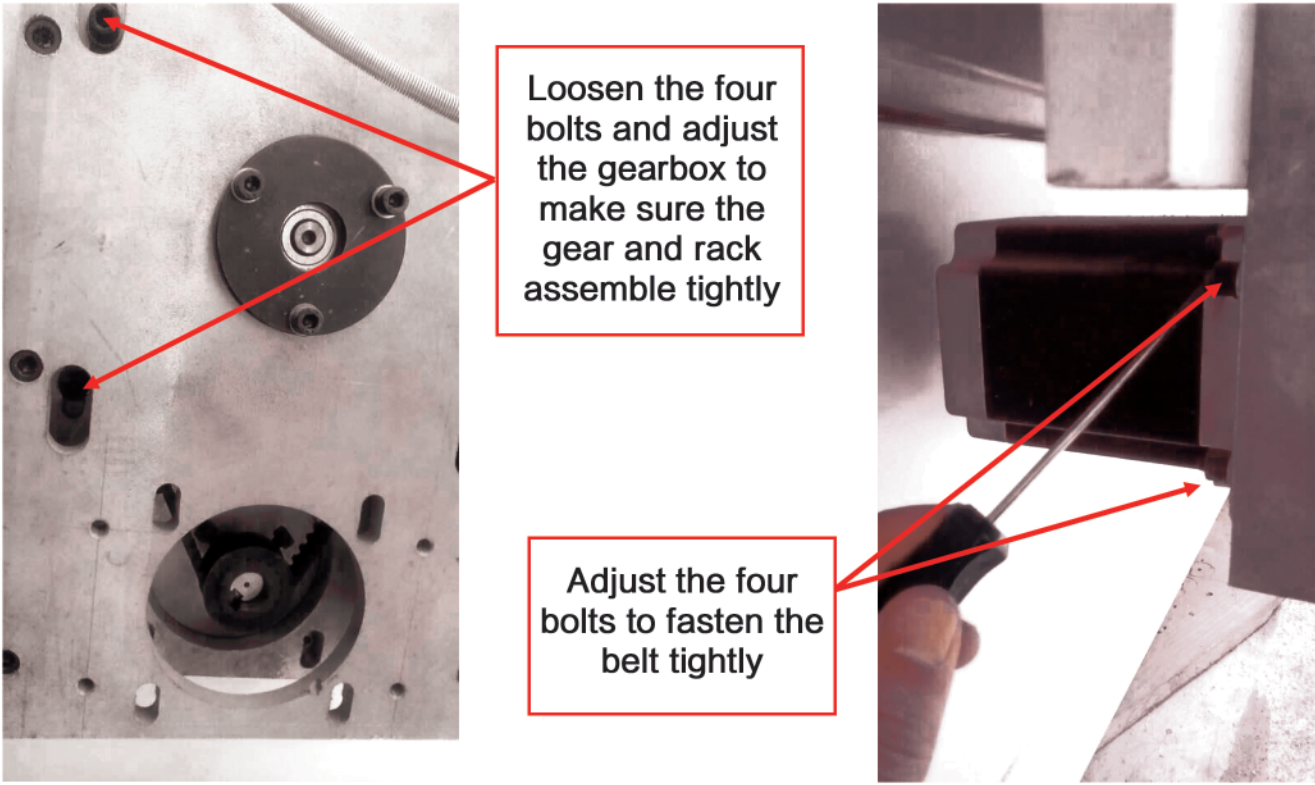

Fig.8 Adjusting the assembly position of Y axis’ gearbox and motor
- After fastening the belt , you can check whether the sliding blocks can be moved or not while shaking the gantry by hand .If it can be moved you should loosen the bolts fixing the gearbox slightly to make sure the gear and rack assemble tightly. (refer to Fig. 8).